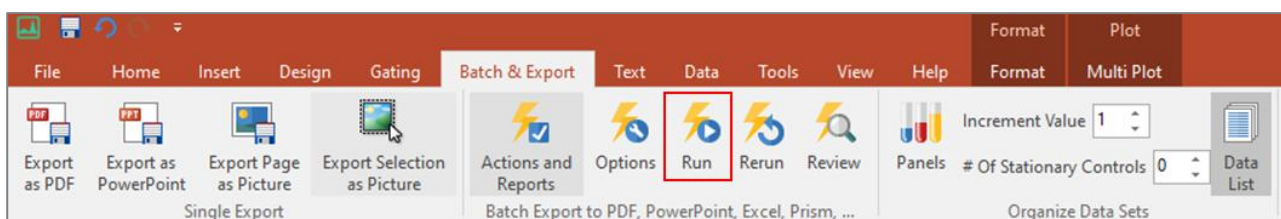

Figure 8. View of the *Batch & Export* tab in FCS Express and location of *Run*
4. Check in FCS Express whether the populations are within the designated gates and adjust them slightly if necessary. To do this, click on the corresponding gate and move it to the desired position. Under the *Batch & Export* tab, click on *Run* (see Figure 8).